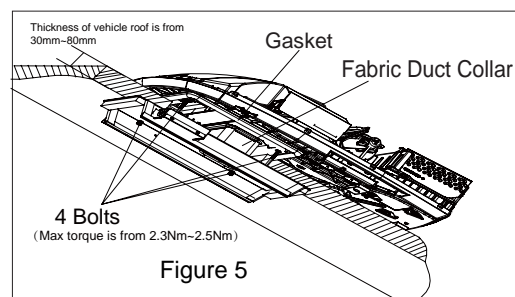
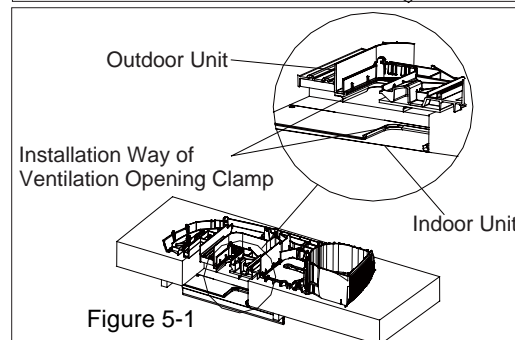
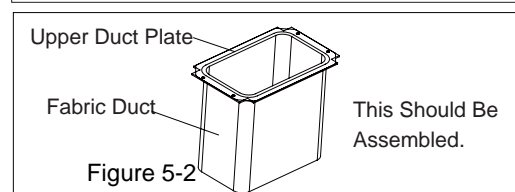
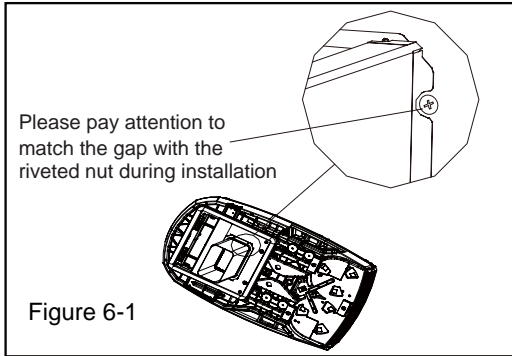

Figure 5
Figure 5-1
Figure 5-2
Figure 6-1
3. Before the ceiling assembly can be mounted to the roof top air conditioner, the fabric duct collar must be fastened to the basepan of the roof top air conditioner with 4 screws by upper duct plate (see Figure 5-2, Figure 6-1, Figure 5, Figure 5-1).
5) Secure the ceiling assembly frame to the roof top air conditioner with the mounting bolts (see Figure 5). You must start (thread) the mounting bolts by hand to avoid cross-threading.